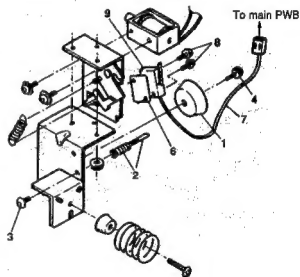

Fig. 3-17
- ⑤ Remove the drawer bottom plate.
- ⑥ Mount the micro switch to the lock unit using the spacer and tooth screws. See Fig. 3-17. (No.6-9)
- ⑦ Draw the connector cable and put into the same hole used for the drawer cable, then insert to the connector.
- ⑧ Replace the drawer bottom plate and the top cabinet.
- ⑨ SRV programming (Job #913-D)